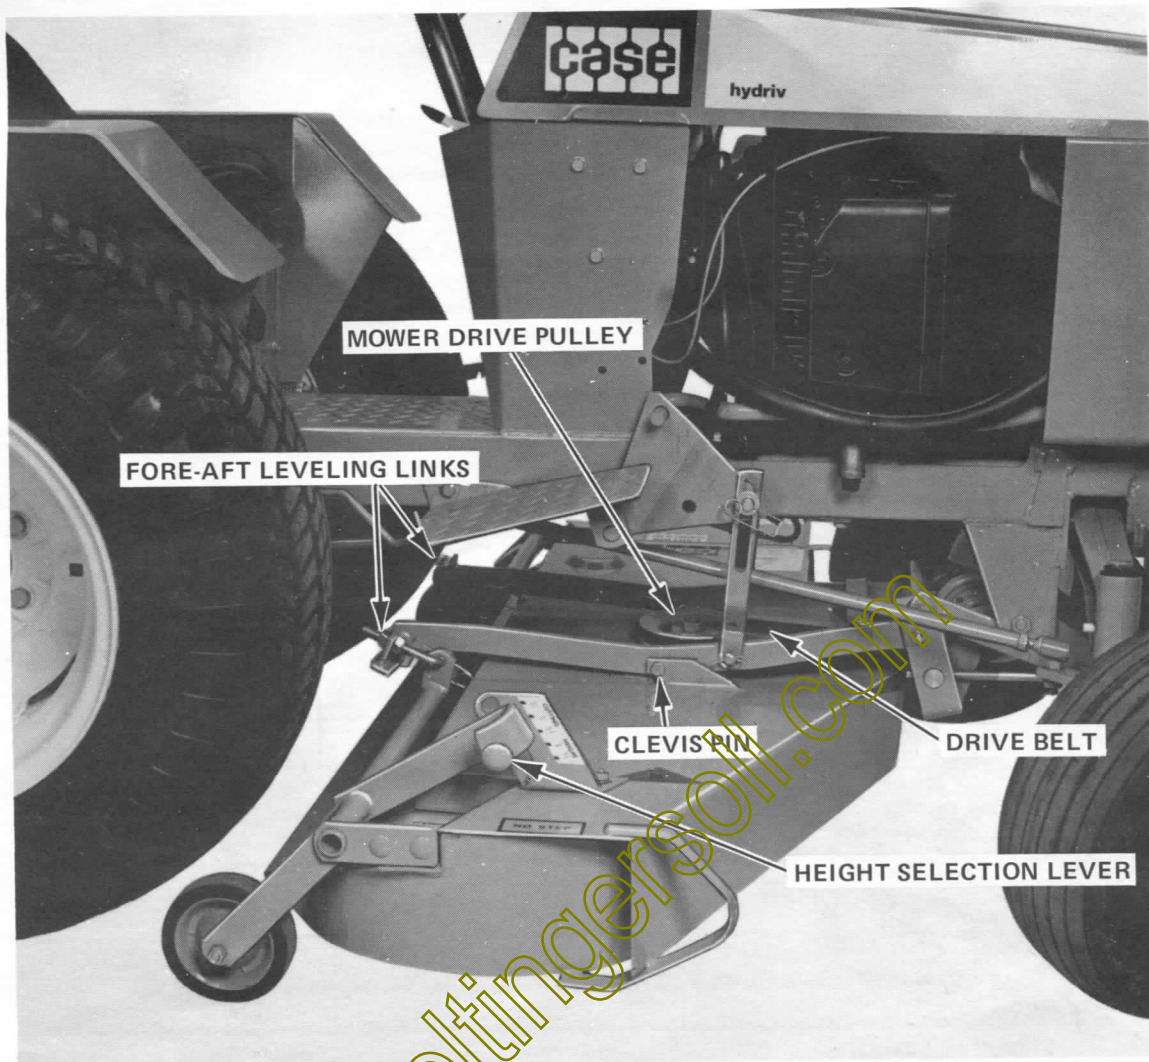

FIGURE 16 MOUNTING THE J-46 MOWER DECK
For Model 446 only, the special right lift link should be installed on the outside of the right lift arm. Install plain washer on the outside against the lift link slot. Refer to Figure 16.
6. Place the height selection lever in the 1½" setting to gain additional clearance and slide the mower under the tractor from the right hand side and align the deck with the attaching holes in the mounting bracket. Raise the mower to the 2-1/2" setting. Lower the mounting bracket to the mower deck. Refer to Figure 16.
7. Install the Fore-Aft leveling links to the mounting bracket as illustrated in Figure 16.